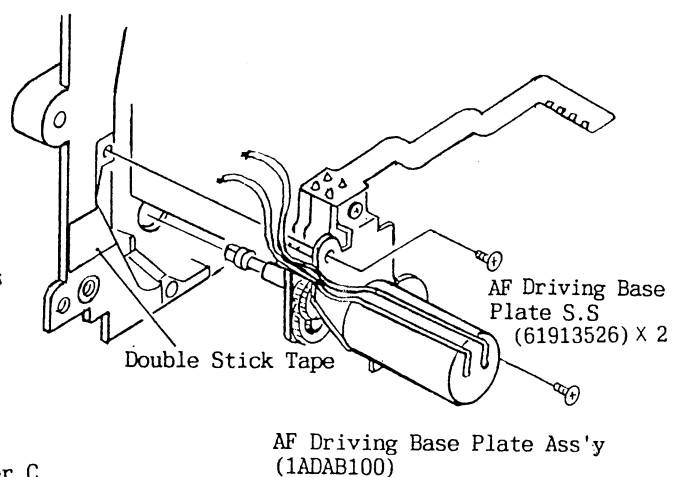

Fig.48
- 7) Remove the AF Driving Base Plate Ass'y Setscrews (61913526) x 2 and take off the AF Driving Base Plate Ass'y (1ADAB100). (See Fig.48)